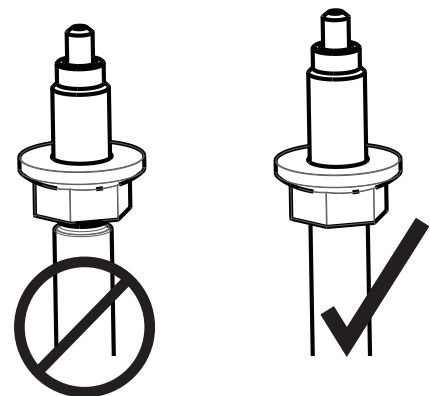

Fig. 7: Cinch nut seated on shaft shoulder.
4. Ensure the cinch nut is seated on the shaft shoulder (Fig. 7).